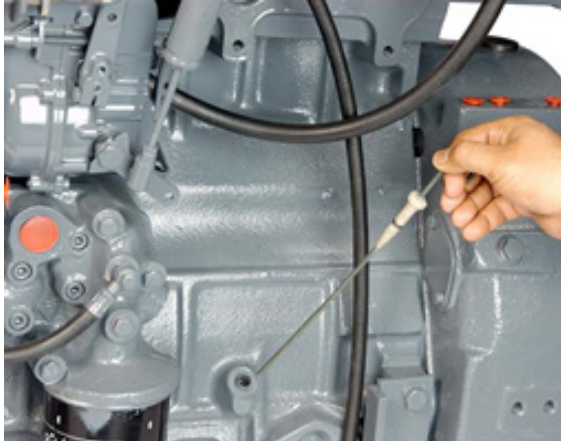

Figure 5
2. Pull out dipstick and wipe it with a clean rag. Push it in as far as it will go, then withdraw again (Figure 5).